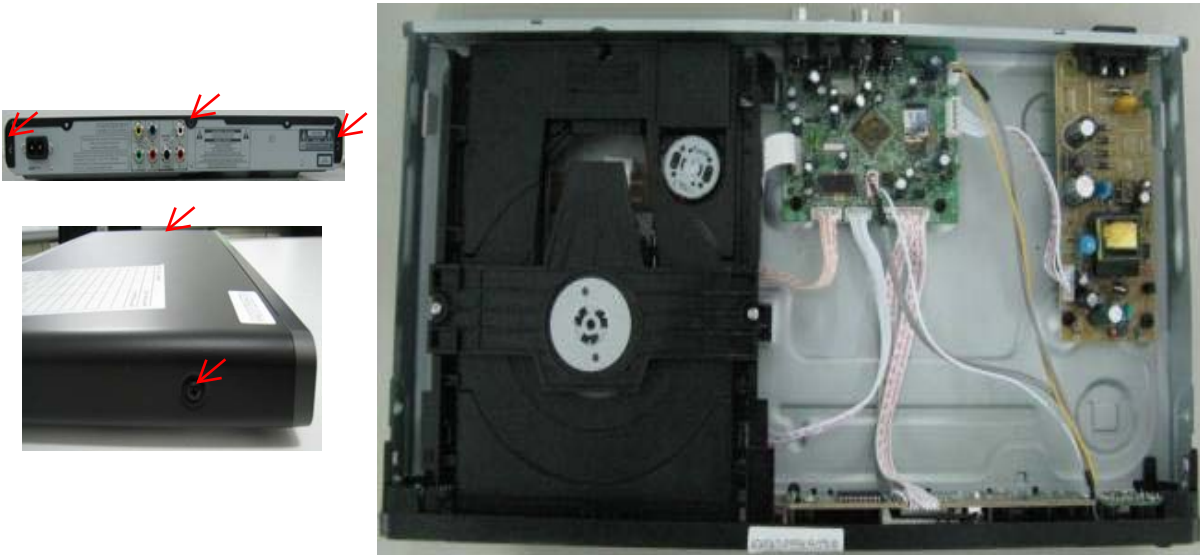

Figure 1
**Step1:** Remove 5 screws around the Top Cover, and then remove the Top Cover (Figure 1).